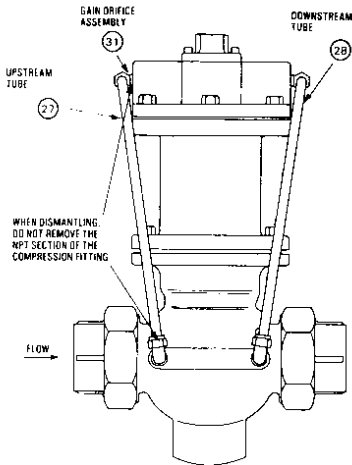
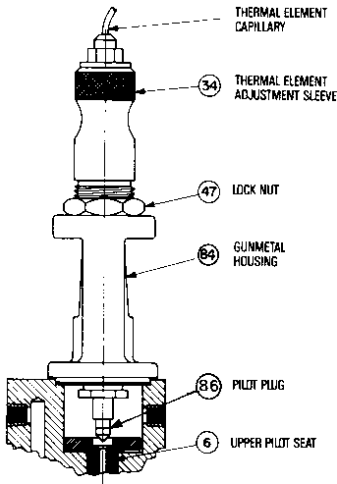

FIGURE 3 LOCATION OF GAIN ORIFICE ASSEMBLY
FIGURE 4 – SUPERSTRUCTURE ASSEMBLY ①
- T4 Refer to Figure 3. Carefully disconnect and remove the downstream side tubing assembly (do not remove the NPT sections of the compression fittings which are screwed into the Valve top and body). Crack each connection to allow any trapped pressure to dissipate before completely disconnecting the tubing.
- T5 Run Locknut (47) up as high as it will travel and turn the Adjustment Sleeve (34) down by hand (do not use a spanner) until the Pilot Plug seats indicated by the sleeve (34) becoming more difficult to turn by hand. Leave the Locknut (47) at the top of the Sleeve Thread.
- b) If steam escapes through the upper tubing assembly opening in the Valve Top, the problem is at the Pilot Plug (See Figure 4). Proceed to dismantle and repair the Temperature Pilot as detailed in Steps DR4 through DR13 under Dismantling/Assembly. Refer to pages 19, 20 and 21.
- T10. Check there is no restriction of steam flow to the Temperature Pilot. Thoroughly clean out the Gain Orifice Assembly (See Figure 3) and the connection holes in the valve top and body.
- T13. Refer to figure 4. Run the Locknut (47) up as high as it will go and turn the Adjustment Sleeve (34) down by hand (do not use a spanner) until the Pilot Plug seats - indicated by the Sleeve (34) becoming more difficult to turn by hand. Leave the Locknut (47) at the top of the Sleeve (34) thread.
- Gain orifice omitted from assembly, see Figure 3.
DR2 Refer to Figures 4 and 7.
DR14 Carefully relieve any trapped pressure in the upstream and downstream tubing assembly and remove both assemblies. Leave the NPT sections of the compression fittings screwed into the valve top and body (see Figure 3)